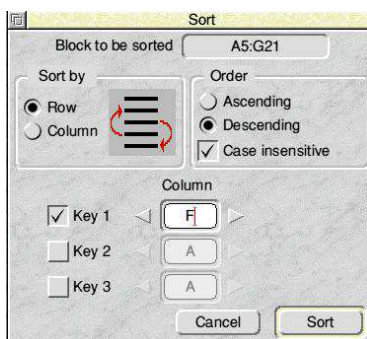

Figure 2.7 Sort Dialogue Box
- Select cells A5 to G21 and then bring up the sort dialogue box shown in Figure 2.7 by using Menu > Utilities > Sort (or use the shortcut F6).